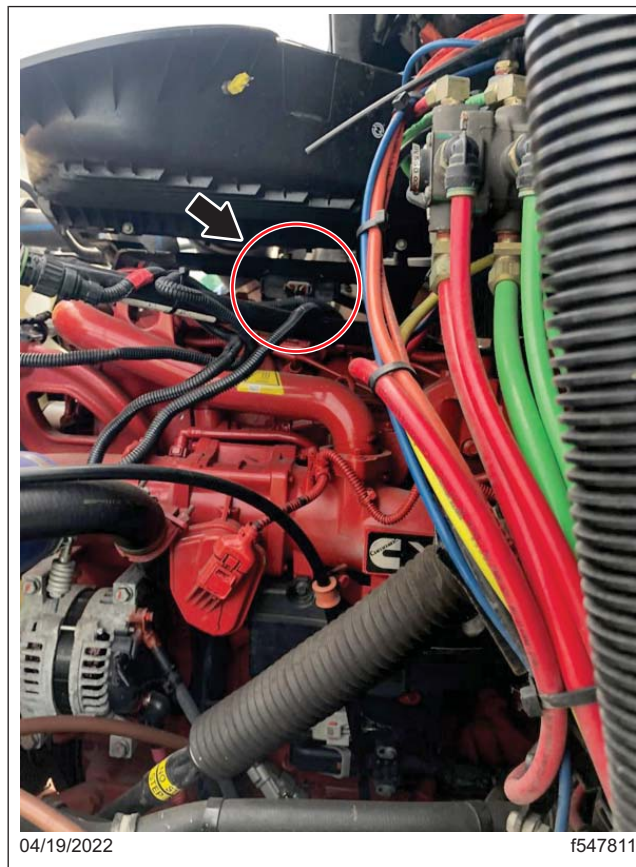
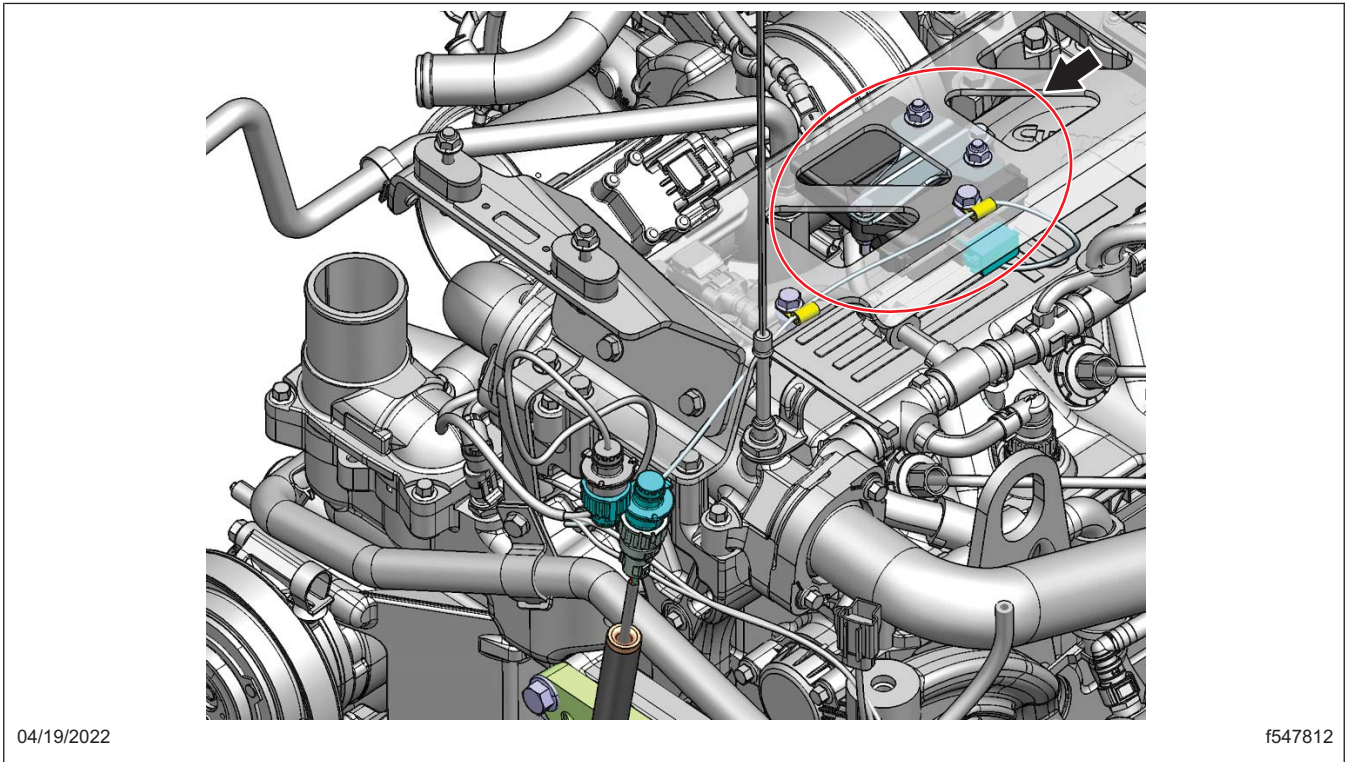

Fig. 3, Kysor Fan Control Module Location
Fig. 4, Kysor Fan Control Module Assembly
3. Locate the Kysor fan control module on the mounting bracket under the intake bracket above the rocker cover. See Fig. 3 and Fig. 4.